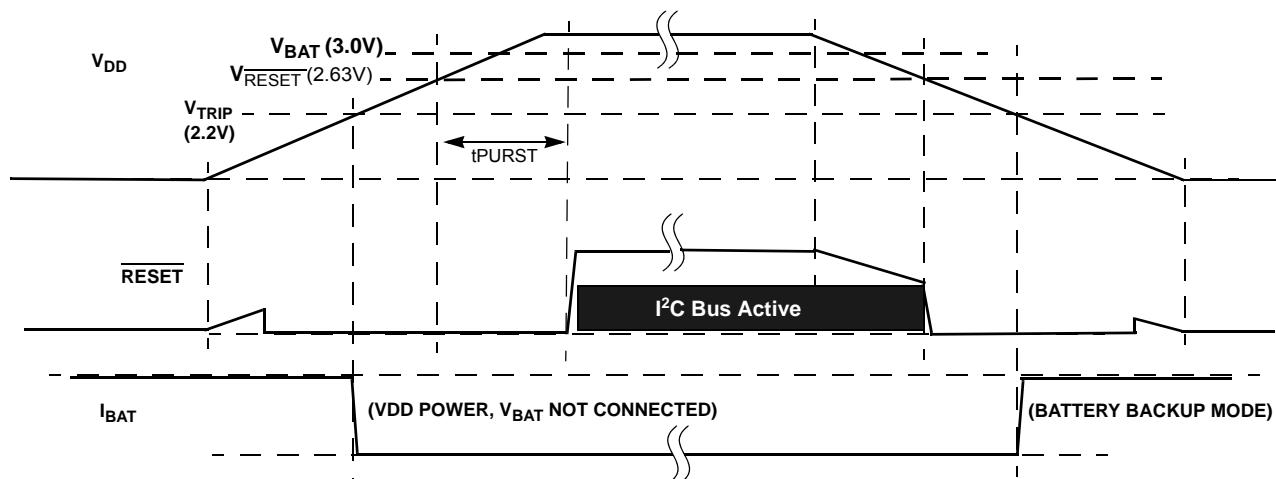

FIGURE 29. EXAMPLE RESET OPERATION IN MODE A OR C
- **Mode A** - In this mode, selection bits indicate a low  $V_{DD}$  switchover combined with  $\text{I}^2\text{C}$  operation in battery backup mode. In actuality the  $V_{DD}$  will go below  $V_{RESET}$  before switching to battery backup, which will disable  $\text{I}^2\text{C}$  ANYTIME the device goes into battery backup mode. Regardless of the battery voltage, the  $\text{I}^2\text{C}$  will work down to the  $V_{RESET}$  voltage (see Figure 29).
- **Mode D** - In this mode, the selection bits indicate switchover to battery backup at  $V_{DD} < V_{BAT}$ , and no  $\text{I}^2\text{C}$  communications in battery backup. This mode is unique in that there is  $\text{I}^2\text{C}$  communication as long as  $V_{DD}$  is higher than  $V_{RESET}$  or  $V_{BAT}$ , whichever is greater. This mode is the safest for guaranteeing  $\text{I}^2\text{C}$  communications only when there is a Valid  $V_{DD}$  (see Figure 29).